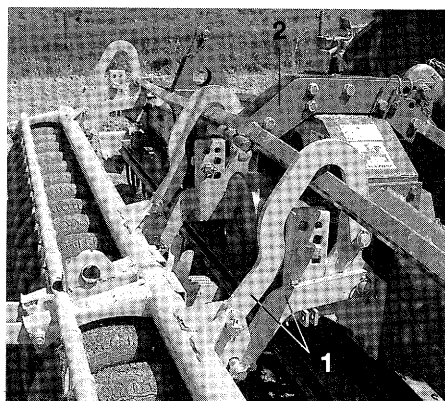

Fig. 50
- 4 parallel carrying arms (Fig. 50/1) at the sides and in the machine's centre.
The reciprocating power harrow must be equipped additionally with a carrying frame (Fig. 50/2).